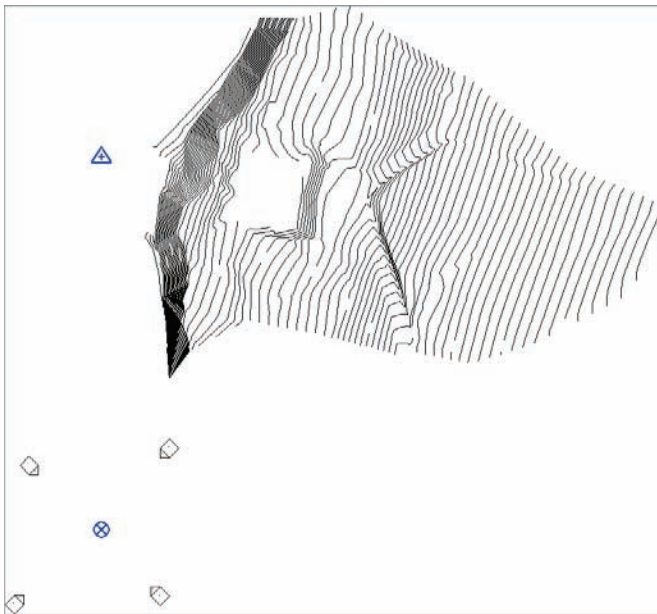

FIGURE 18.32 The linked site
10. Your site should be positioned as shown in Figure 18.32.